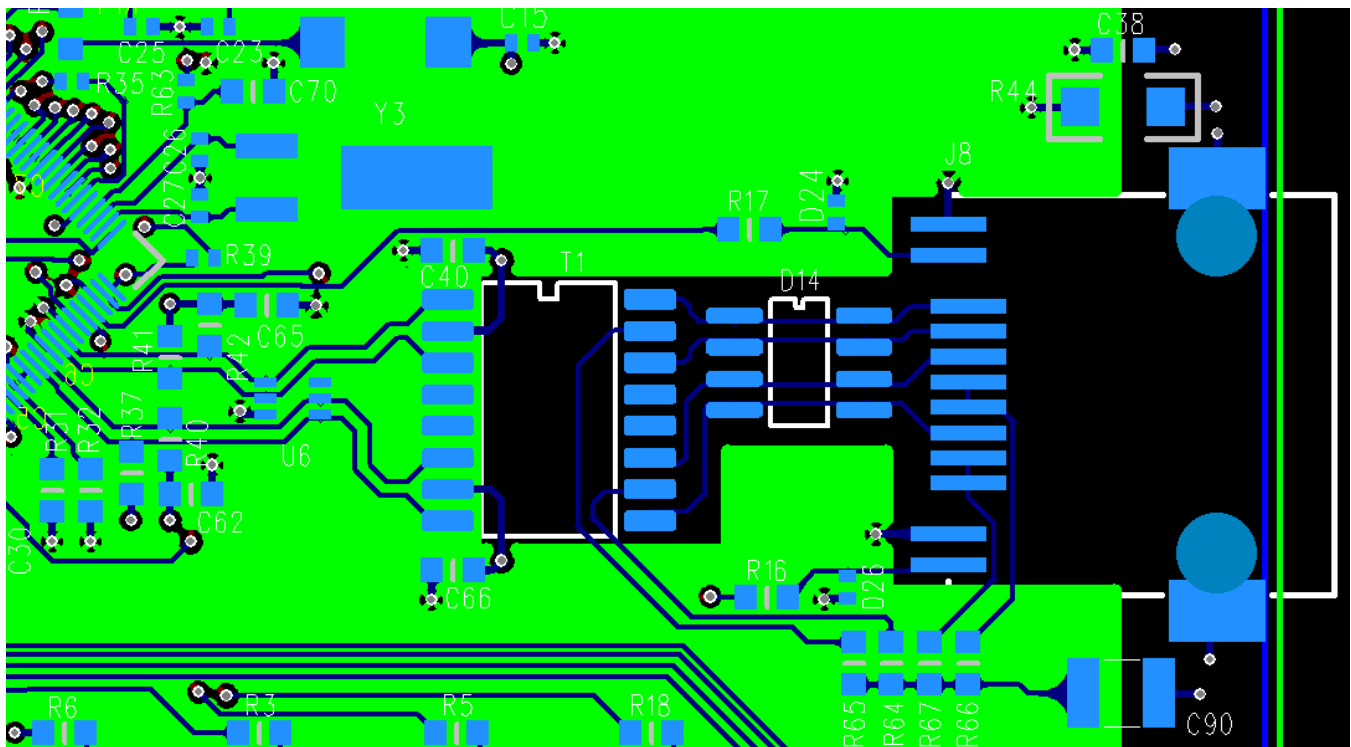

Figure 32. Ethernet PHY PCB Layout
Good PCB layout and routing practices are important to ensure reliable Ethernet signaling, as shown in the example depicted in Figure 32.
- Place 0.1μF capacitors close to the Ethernet transformer. Refer to C40 and C66 in Figure 32.
- Do not extend the ground plane under the signals from the transformer to the connector. Refer to the lack of a ground plane under T1, D14 and J8 in Figure 32.